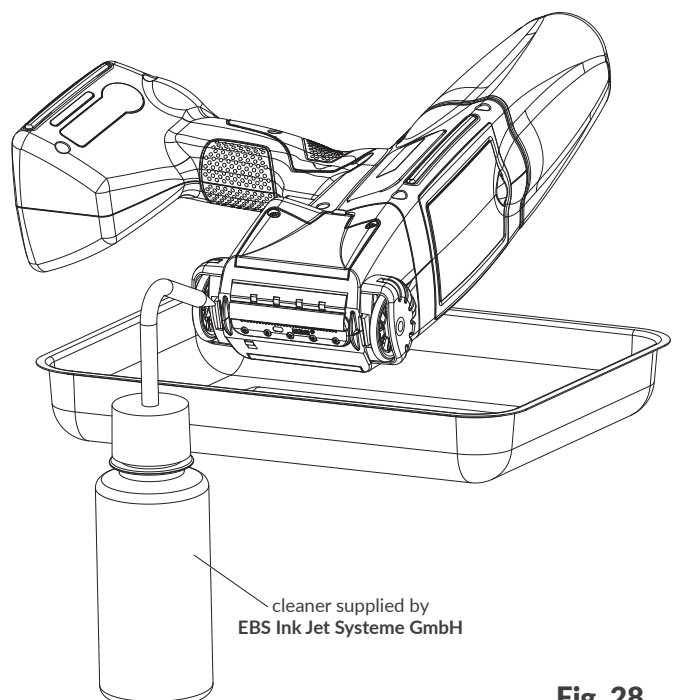

Fig. 28.
2. Tilt the printer to the side and direct the printer face slightly downward (see Fig. 28); such a position enables the dirty cleaner to flow out.